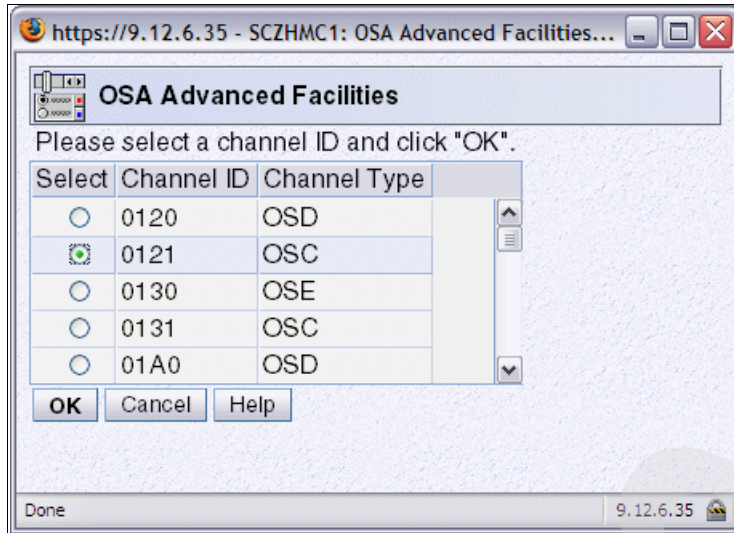

Figure 4-27 HMC - OSA Advanced Facilities (OSC Channel)
4. Select the radio button for the Channel ID card you want to export, then click **OK** (Figure 4-27 on page 159).